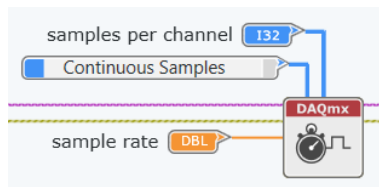

Figure 7-26 DAQmx Timing is used to configure timing mode, sample rate, and samples per channel for a task.
8. The DAQmx timing VI is used to configure a task's timing mode, sample rate, and samples per channel. Create controls and constants, as in Figure 7-26.